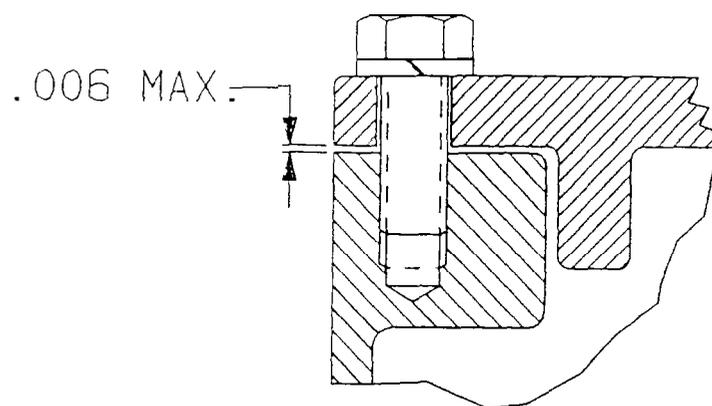

FIGURE 5
- (WEEKLY) 3. () "Alternator Covers" are properly installed with all bolts and Lockwashers in place and tight (Figure 5) .